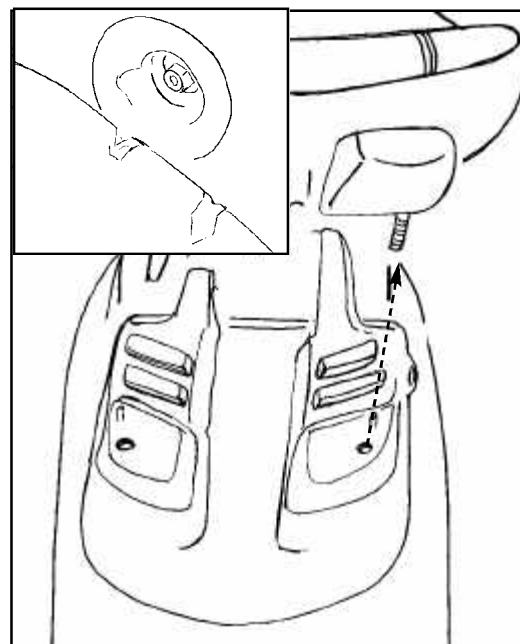
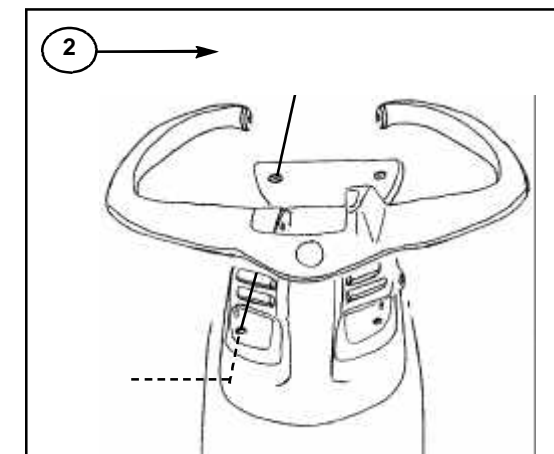

Figure 3.
Figure 4.
Remove the 6mm nuts and washers located inside the fender, that retain the rubber covers to the fender brace (socket, 10mm). Figure 3.
Position holes of hand rail with fender cover. Fix in place with the M6 x 50 flat head screws (2) through the hand rail, the fender cover, the chassis, and the fender. Fasten from inside the fender, with the 6 mm nuts and washers removed in preparation step reference figure 3. **Do not tighten.** Figure 4.